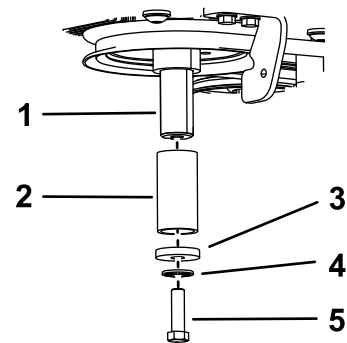

Figure 87
- Apply anti-seize compound to the crank shaft, then install the bolt, washer, spring washer, and a spacer (Toro part no. 136-5411) to the shaft (Figure 87).